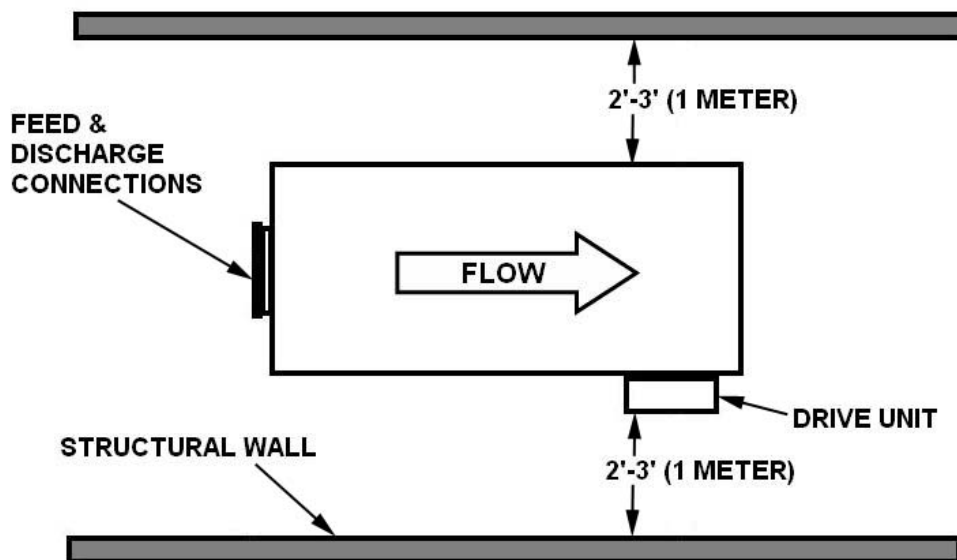

Figure 3-1. Flo-Line Primer Clearances
1. Confirm adequate clearance for changing screen belt. Figure 3-1 shows minimum required clearances on all sides of machine(s). If operating cartridge will be removed, allow at least 9' (2743mm) in front of discharge end to accept the separated cartridge following removal.